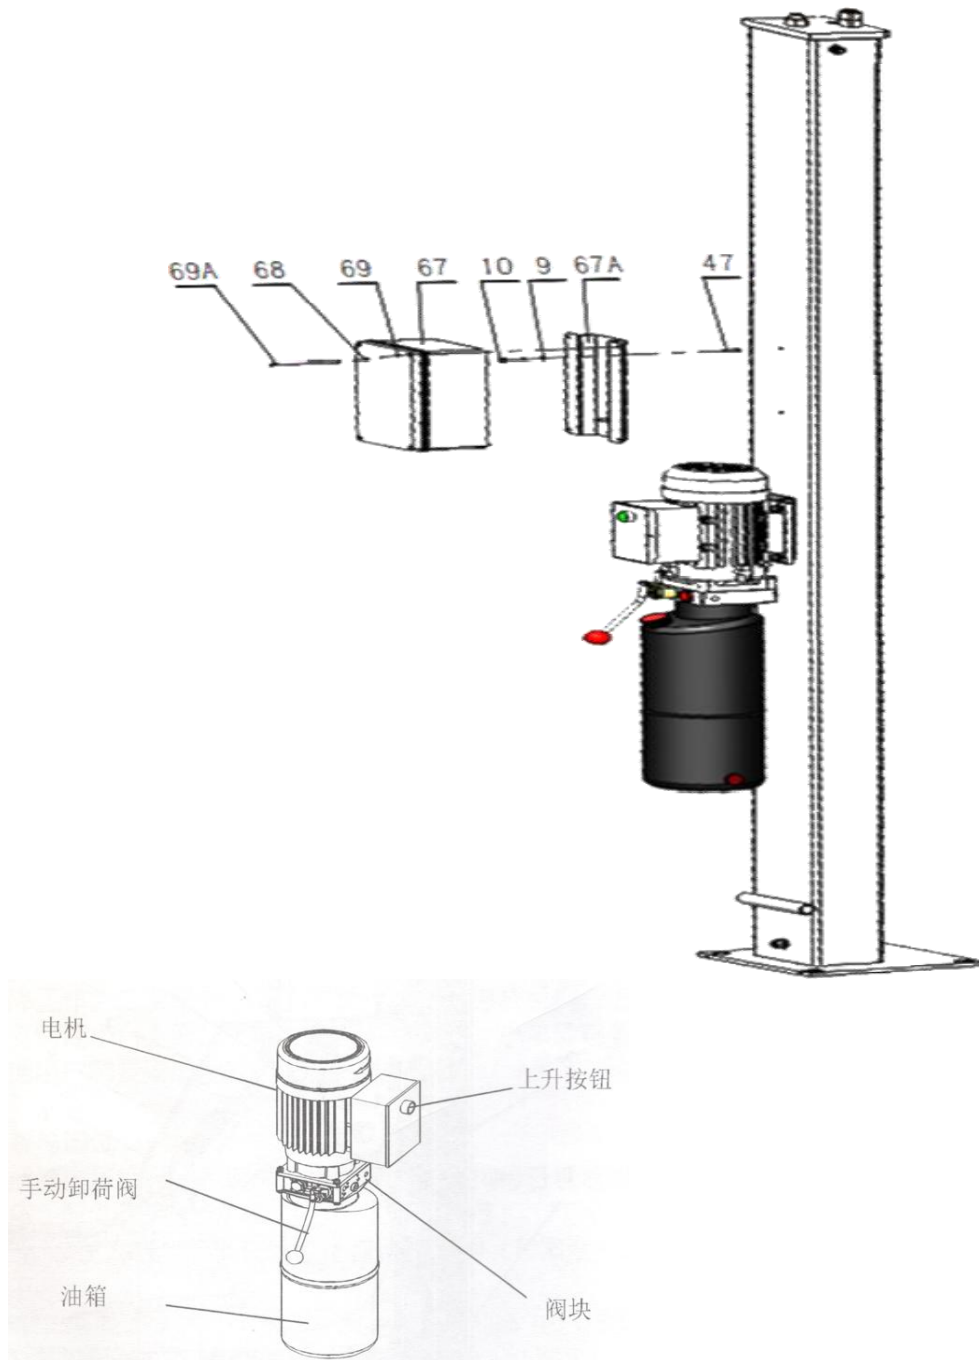

Fig.25
K. Install the control box(See.Fig.25)